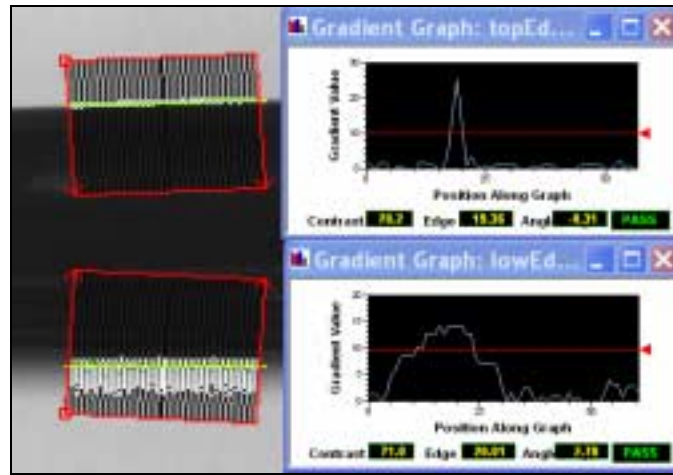
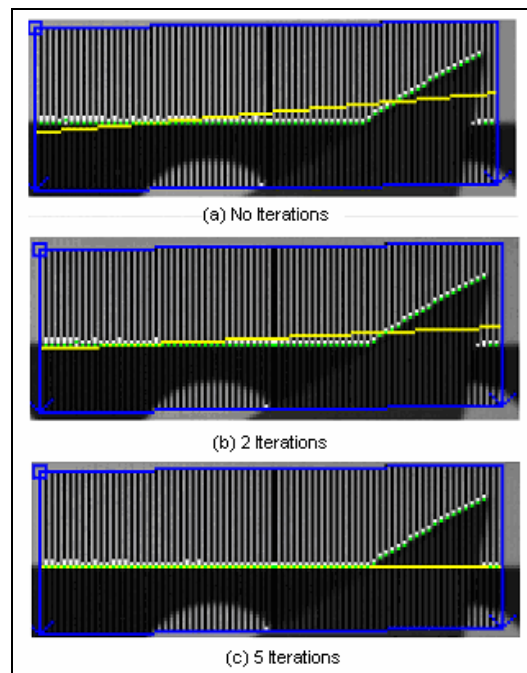

Figure 37: Area Measurement SoftSensors in presence of sharp and fuzzy edges. The gradient graphs indicate the width of the transition.
Figure 39: Use of the number of iterations to overcome imperfections/noise in the part
- Edge Width: This option lets the user indicate how many pixels determine the edge to be used. If the images are not well focused, the edges will not appear as sharp. In those cases the user needs to give the SoftSensor an idea as to how wide the transition is to better calculate edge positions. Figure 37 illustrates more the use of this option. The SoftSensor finding the top edge faces a sharp transition while the one finding the bottom
The Max Iterations option lets the user indicate how many times to recalculate the line/circle being interpolated using the data points. After every calculation, points are assigned a certain weight for the next calculation based on the distance from them to the computed output (line/circle). By doing this, the algorithm puts more emphasis of true edge points and less on noise. Figure 39 illustrates the use of this option. Image (a) shows the output line calculated with no iterations. As the image illustrates the output line is not on the edge because of the imperfection of the part. Images (b) and (c) show the same SoftSensor after 2 and 5 iterations.
The line fit SoftSensor (called Area Edge Line SoftSensor) is another area SoftSensor. It works just like the area caliper tool only that it scans in one direction. It consists of many scan lines (a number that the user can specify like in the Measure Across Area SoftSensor). Every scan line intersects the edge of the part being inspected and determines the intersection point. The algorithm then interpolates those points into a straight line which is the output of the SoftSensor. This type of tool is the one shown in Figure 37, Figure 38, and Figure 39.